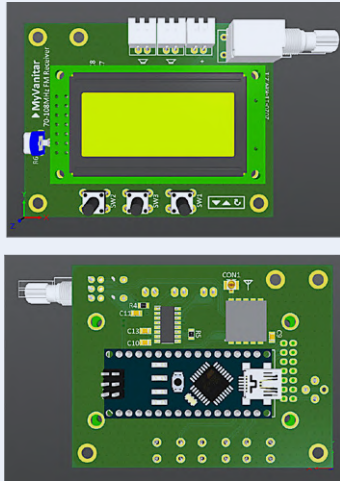
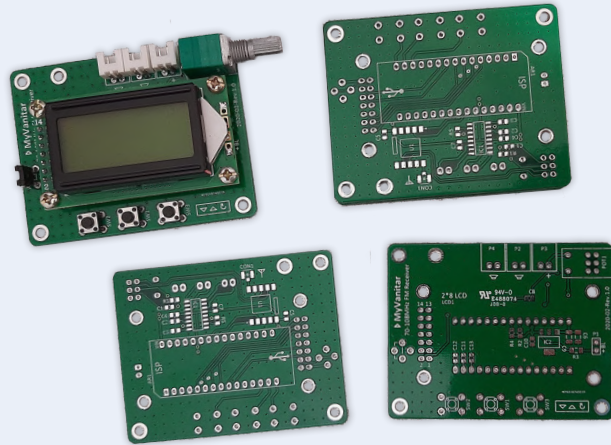

Figure 6: PCB, 3D-views.
Figure 7: PCB, assembled top side and 3 x unpopulated.
**Figure 6** shows the 3D views of the board, showing how this project is constructed. **Figure 7** shows the high-quality fabricated PCBs of the digital FM receiver circuit.
*Please note that an early version of the PCB is shown in Figures 6 to 9, but there are only minor differences with the final layout!*